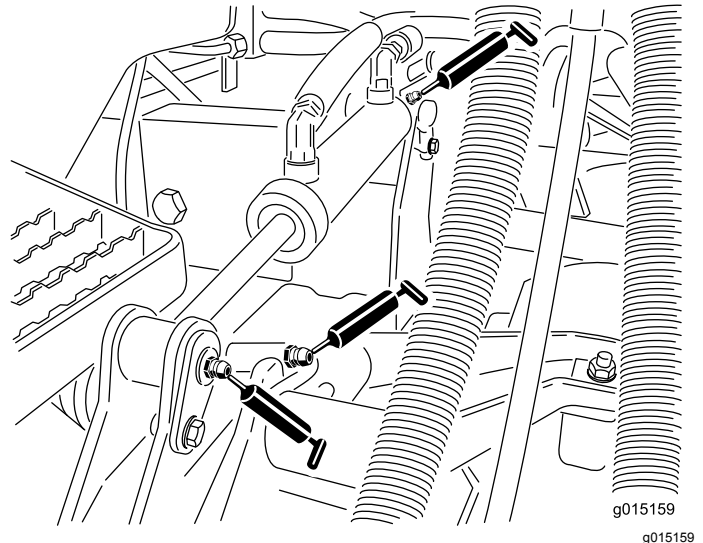

Figure 44
- Lift arm bushings (1 per cutting unit) (Figure 44)
- Lift cylinder bushings (2 per cutting unit) (Figure 44)